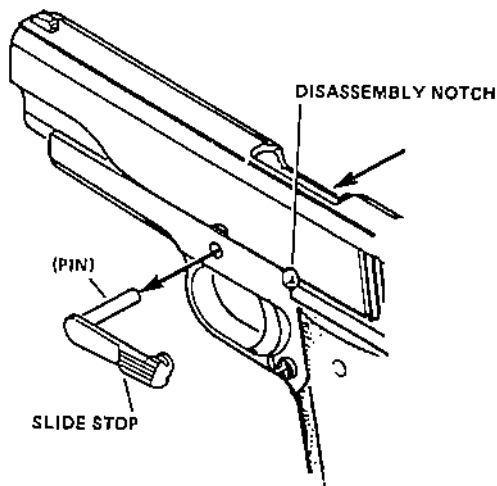

FIGURE 9—REMOVING SLIDE STOP
5. (A, B & C) Pull slide to rear until lug on slide stop is opposite disassembly notch (See Figure 9) and push rounded end of pin of slide stop (on right of receiver) inward and through receiver to disengage slide stop from slide.
(See Figure 9).